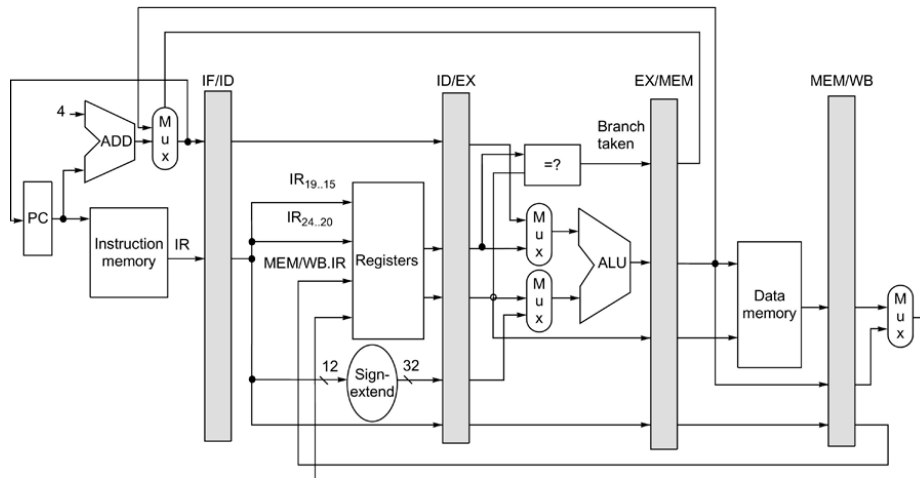
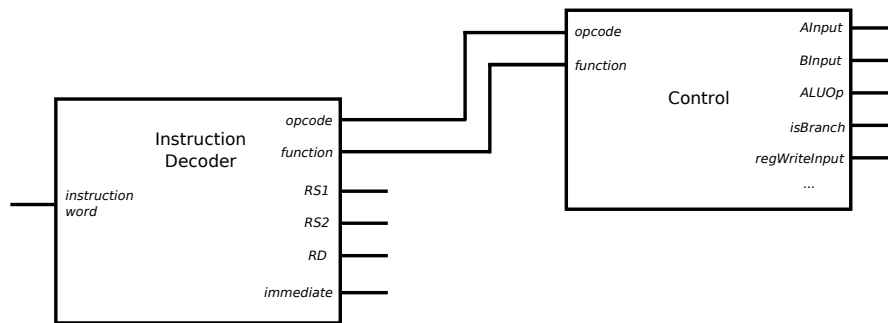

Figure 1: Possible data path for a simple RISC-V processor, which can be adapted to OpenRISC.
Figure 3: Interconnection between instruction decoder and control signals component.
Consider the data path in Figure 1 as discussed by Hennessy and Patterson. You will find several of these components in the C++ skeleton that is provided to you, such as the register file, pipeline registers and instruction and data memories. Not all of the components have been fully implemented. Because we will start with a non-pipelined design that is later extended to a pipelined design, we will use the pipeline registers in all cases. The data path consists of 5 stages. Each clock cycle, one of the stages is executed. This execution is done in two steps: propagate and clock pulse. During the propagate step the (source) pipeline register may be read and inputs of the different components are set. In fact, the inputs from the pipeline register propagate through the various components. In the clock pulse step the destination pipeline register is written. Also in components that contain state (such as the register file) a write is carried out.
trigger the actual write to the register file. Compare this with the lines drawn in the data path of Figure 1!
As can be seen in the data path there are several multiplexers (mux) and other components that need to be controlled. The multiplexers need to be told which of the inputs to relay to the output. The ALU needs an input that indicates the operation to be carried out. These are not data inputs (contrary to instruction word, register numbers, ALU output), but rather control inputs. So, next to the data path we need control signals, sometimes referred to as the control of the processor. Note that in Figure 1 the control lines are *not* shown. How to determine the correct values of the different control signals? Well, this is all encoded into the instruction. When decoding the instruction, we need to determine the control signals such that exactly this instruction is being executed. In case of OpenRISC, we can determine the control signals from the combination of opcode and function codes.
To implement the control signals, we suggest to implement a `ControlSignals` class. This will form a separate component. The instruction decode stage should set the opcode and function code as inputs on this component. After that, the control signals can be obtained using various getters. For example, you would want getters for determining the ALU operation (which is to be set as input on the ALU in EX), setting the selectors on the multiplexers in front of the A and B inputs of the ALU, and so on. You also want to pass the instance of the `ControlSignals` class to later stages through the pipeline registers. Figure 3 depicts the interplay between the initial instruction decoder and the control signals component.
- **ID** In the instruction decode stage, we are going to decode the instruction word that was placed in the pipeline register. As a first step, the instruction word needs to be set on the decoder using the appropriate method. Secondly, we can configure the register file in `propagate`, to be able to fetch the register values in `clockPulse` (second half of the clock cycle). To do so, we will call the different methods of the decoder from this instruction decode stage. To fetch register values we need to call the `getA` method to get the register number. This number is set on the register file component, see Figure 1. Additionally, control signals need to be determined to drive the ALU and multiplexers in later stages. We suggest that you create a control signals class, as described earlier. On this class, opcode and function code need to be set, as obtained from the instruction decoder. The control signals class should have several getter-methods that indicate how the different components of the data path must be configured. See Figure 3 for an example.
- **EX** After an instruction has been decoded, it can be executed. Most instructions need to perform an ALU operation. In order to do so, the control signals A, B and op (refer to Figure 1) need to be set. ALU operations are implemented in `alu.cc` and `alu.h`. Methods are present in the ALU class to configure the operands and to read the result. Left to be added are ALU operations to be performed. Use the `ALUop` enum. Your control signals class needs a method to translate opcode and function code to the corresponding `ALUop`. So, within the execute stage you will obtain the `ALUop` from the control signals class and set this value on the ALU. All values must be set on the ALU during the propagate stage. In the clock pulse stage, one calls the method `getResult` to obtain the result and write this result to the pipeline register to be used in the next stage.